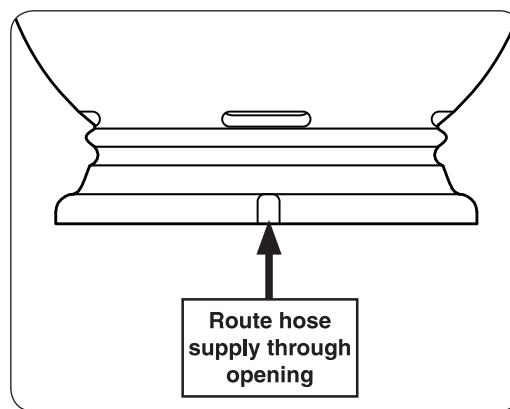

Fig. 2-1 Hose feed location
Note: The notch (bottom opening) at floor of the base is to be facing toward the rear or where the gas hose will be feeding from (see Fig. 2-1).
1. Route the regulator hose assembly (that was previously connected to the fire unit valve assembly) to the tank table and through the bottom opening (see Fig. 2-1).